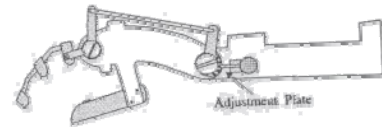

Figure 3
7. What is the main purpose of the orthosis in Figure 3? (3 points)